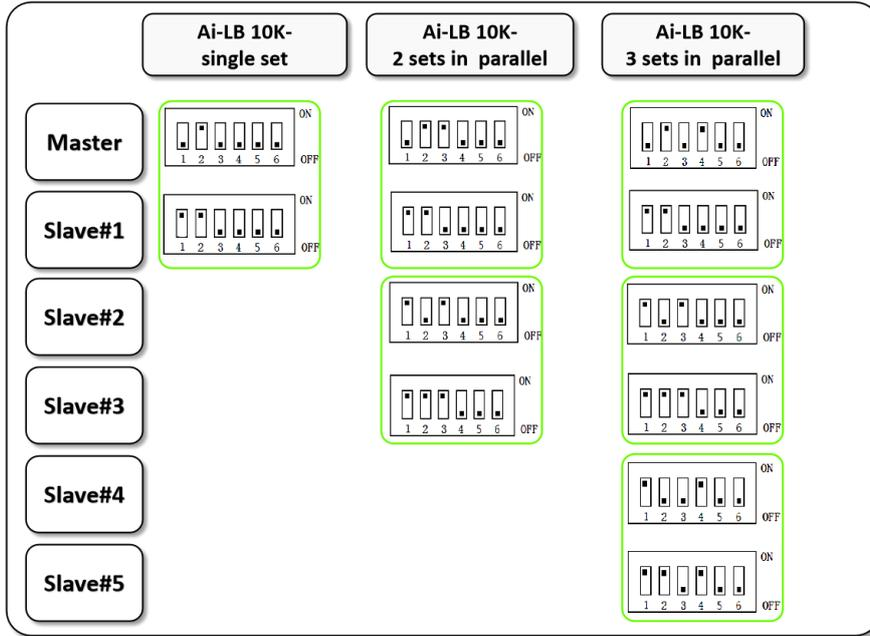

Figure5.4.2 Dial Diagram Setting
2. Set the dial code refer to the Figure 5.4.2 and 5.4.3.